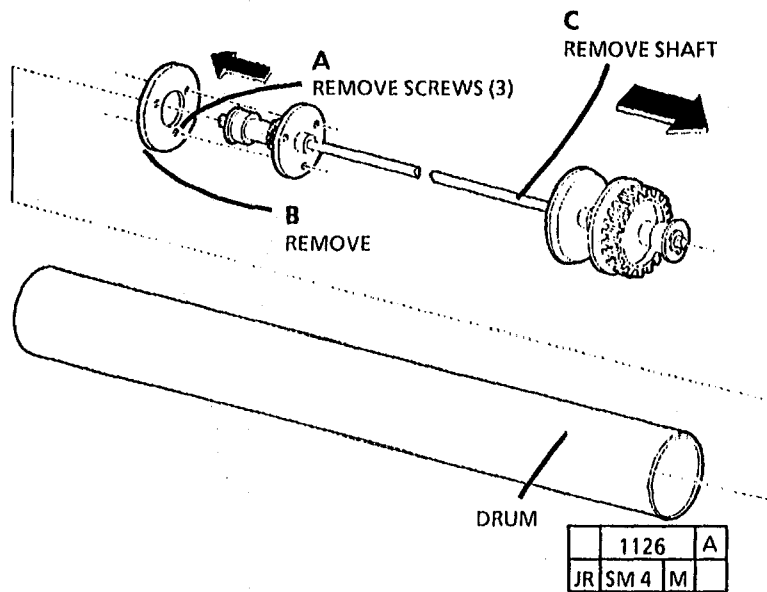

Figure 1. Remove Photoreceptor Drum Shaft
4. (Figure 1): Remove photoreceptor drum shaft.